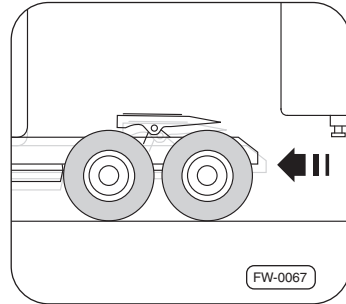

Fig. 14 · Removing the fifth wheel tractor
5. Using the tractor, drive **slowly and in a straight line** out from under the semi-trailer Fig. 14.